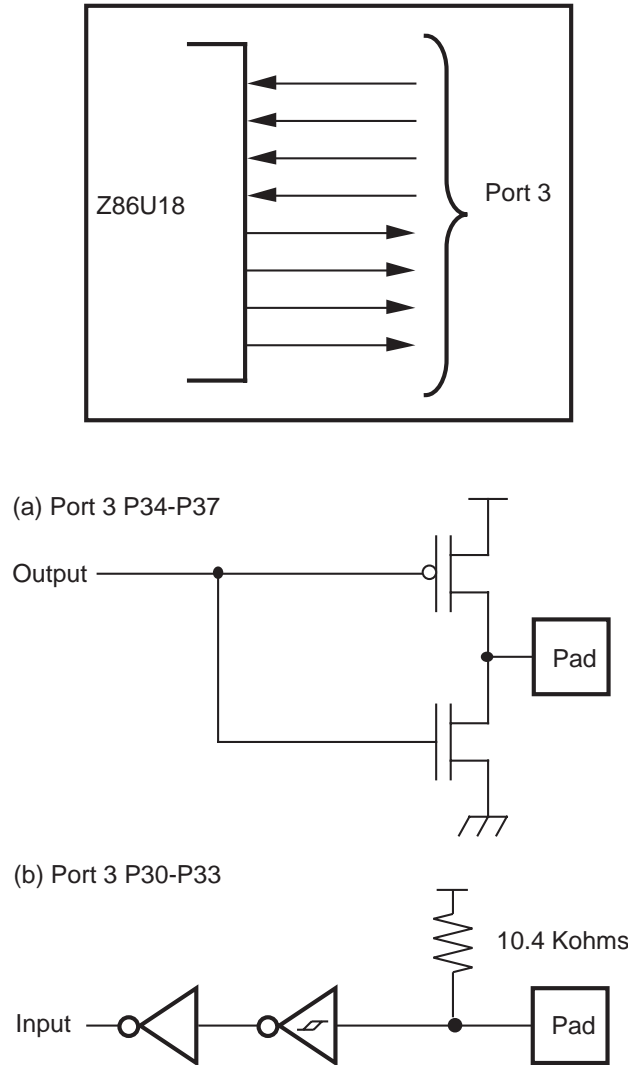

**Figure 10. Port 2 Configuration**
**Port 2** (P27-P20). Port 2 is an 8-bit CMOS-compatible Port with 4-bit input, 4-bit programmable I/O (Figure 10). P20-P24 have 10.4 K ( $\pm 35$  percent) pull-up resistors. P25 and P26 have 2.4 K ( $\pm 25$  percent) pull-up resistor.